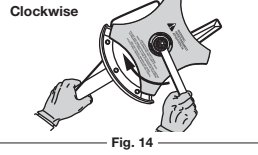

Fig. 14
- Hold the locking rod in place by grasping it next to the boom of the unit (Fig. 14).
- While holding the locking rod, loosen the nut on the blade by turning it clockwise with a 13 mm closed-end or socket wrench (Fig. 14).